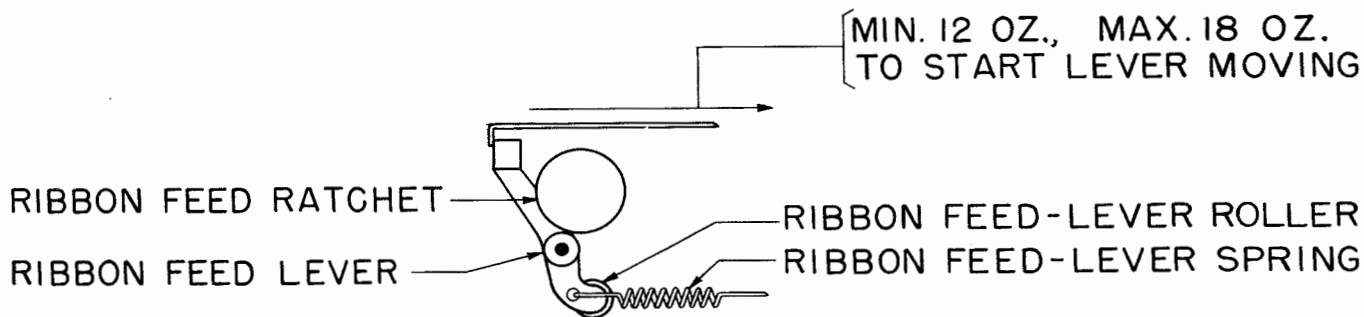

Figure 21
2.32 Ribbon-feed-lever Spring: (If the ribbon-feed pawl was not previously removed from the unit as specified in 2.31, remove it.) It shall require a pull as indicated in Figure 21 to start the lever moving when the ribbon-feed-lever roller is in the plunger indent.